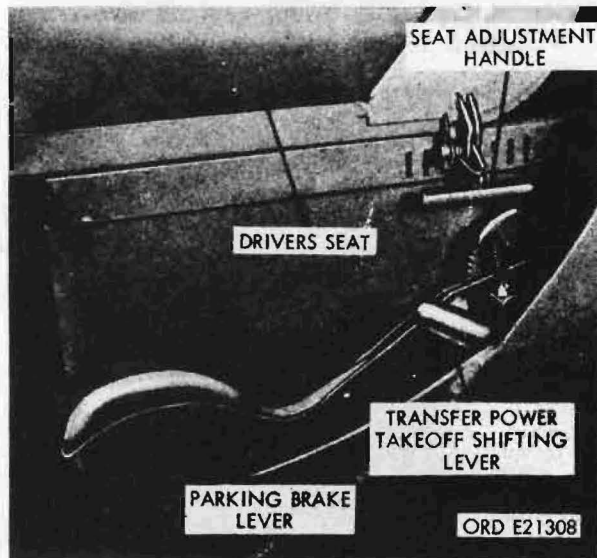

Figure 34. Parking brake lever and transfer power-takeoff shifting lever
- (16) Parking brake control lever (fig. 34). The parking brake control lever, located to the left side of the driver's
(17) Seat adjustment control handle (fig. 34). The seat adjustment control handle, located on the left side of the driver's seat, is lifted to unlock the driver's seat for adjustment. The handle is locked by pushing down until it engages one of the adjustment notches in the seat.
c. Transfer Power-takeoff Shifting Lever (Fig. 34). The transfer power-takeoff shifting lever is applicable to the M49, M49C, M49CA1,